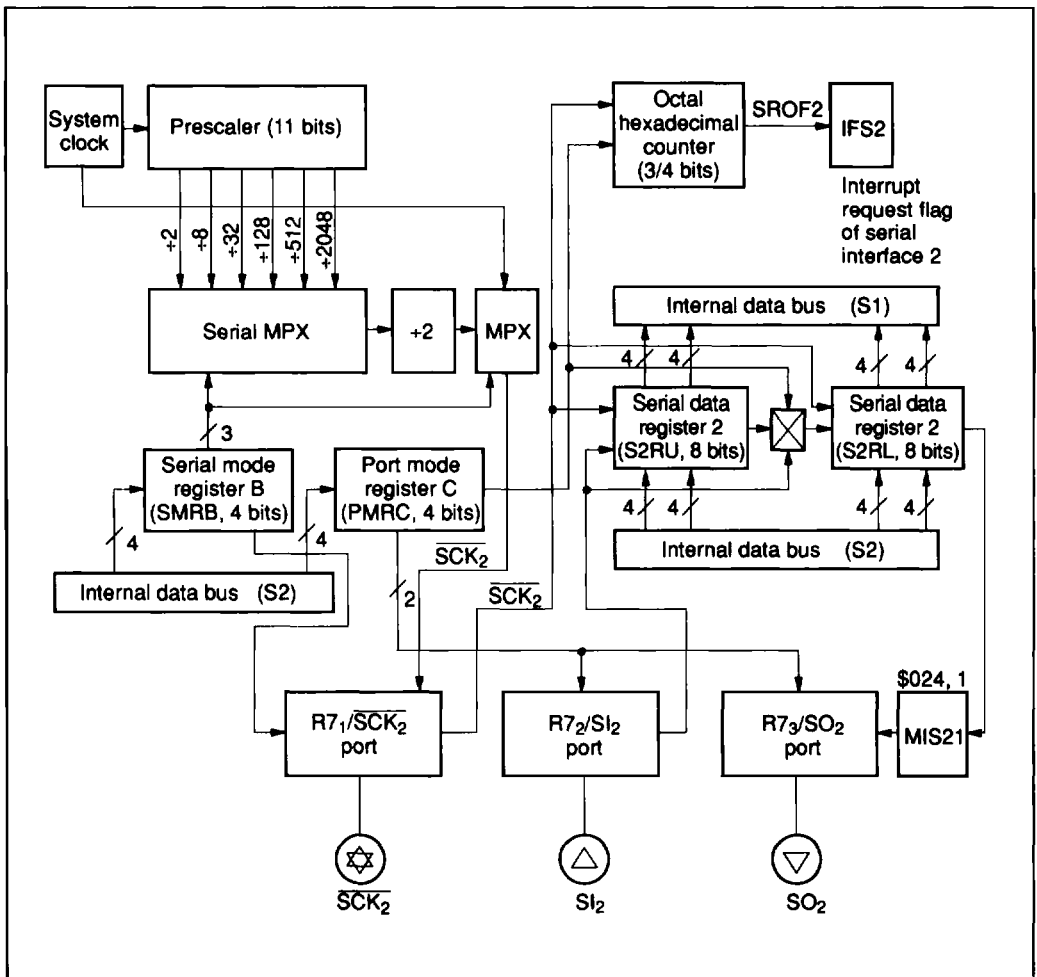

Figure 37 Serial Interface 2 Block Diagram
**Serial Interface 2:** Used to serially transmit and receive 8- or 16-bit data. It consists of a serial 2 data register (S2R), serial mode register B (SMRB), port mode register C (PMRC), miscellaneous register 2 (MIS2), octal/hexadecimal counter, and multiplexer as shown in figure 37. The R71/SCK2 pin and the transmit clock are controlled by writing data to SMRB. The transmit clock shifts the contents of the S2R, which can be read and written to by software, and then transmission starts between two MCUs.